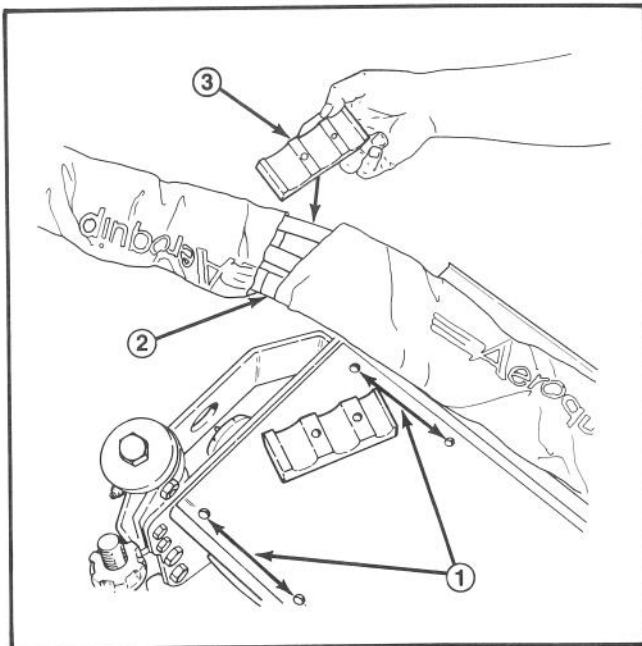

Figure 9
- A. The #4 and #5 tipper brackets should be mounted loosely to hydraulic hoses before being installed on the cutting units. Position the smallest hydraulic line toward the rear of the machine (Fig. 9).
- E. Tighten tipper bracket clamps on #4 and #5 (Fig. 9).